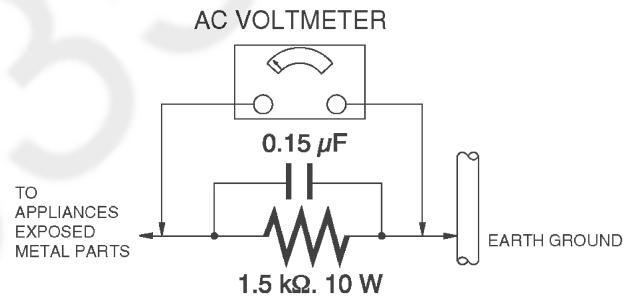

Figure 1
## 1.3. Leakage Current Hot Check (See Figure 1)
2. Connect a  $1.5k\Omega$ , 10 W resistor, in parallel with a  $0.15\mu F$  capacitor, between each exposed metallic part on the set and a good earth ground, as shown in Figure 1.